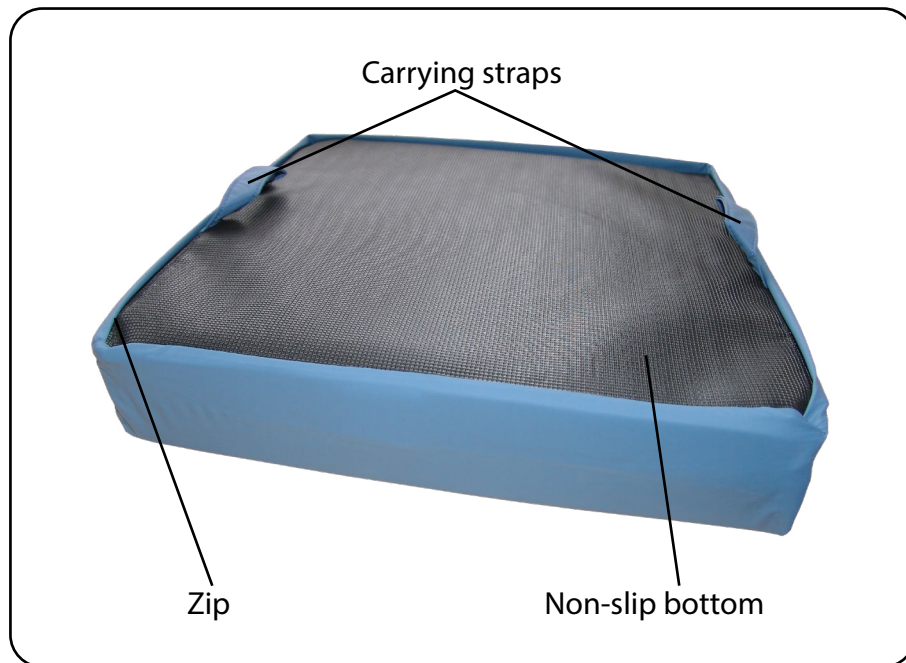

Fig. 5.02 – Bottom
- The non-slip cover side is the bottom and must be placed on the bottom of the seat cushion (Fig. 5.02).
- The carrying straps on the seat cushion cover must be on either side of the front of the seat cushion (Fig. 5.02 and Fig. 6.01).